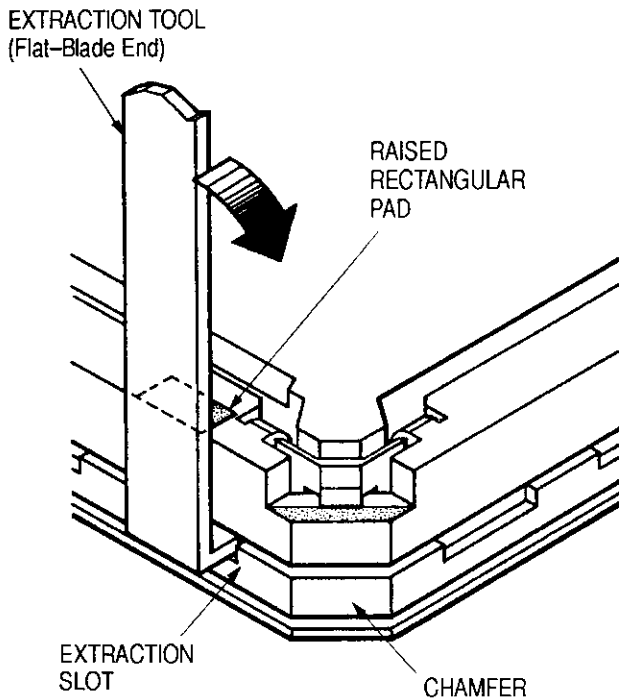

Figure 9
2. Starting with the slot located under the pad next to the chamfer side of the socket, insert the flat blade head of the extraction tool as shown in Figure 9.